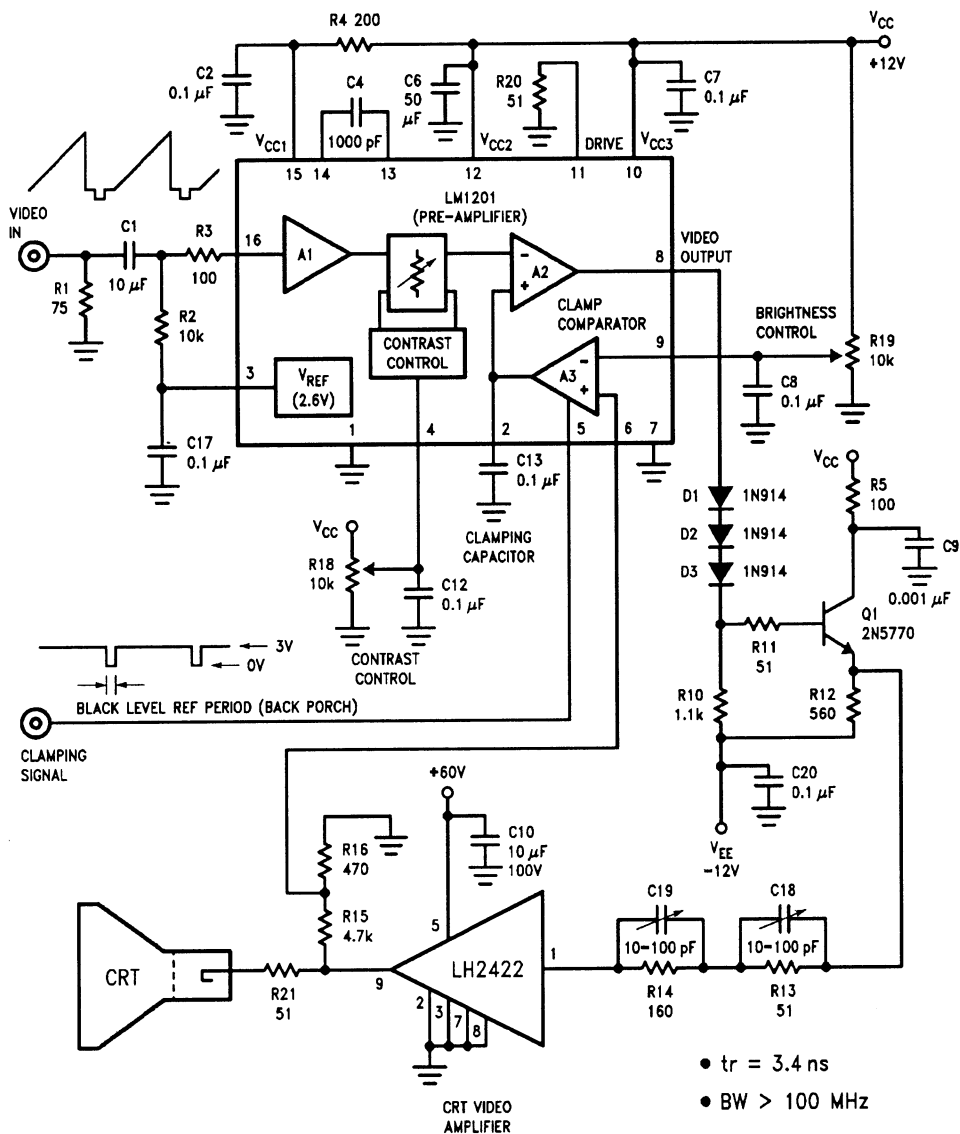

FIGURE 9. Circuit shows how the LM1201 pre-amplifier and LH2422 CRT Video Amplifier may be used to build a 100 MHz monochrome monitor.
The composite video signal from the host computer is ac coupled to the input of LM1201 through a blocking capacitor, C1, and is referenced to 2.6V by an internal reference. Amplifiers A1 and A2 shown in the block diagram of LM1201 (see *Figure 9*) provide a gain of 8; shorting the drive resistor, R20, will provide additional gain. The potentiometer R18 provides a variable voltage at LM1201's contrast control pin (pin 4) thus allowing attenuation of the video output signal. A nearly linear 0 dB to 30 dB attenuation can be obtained by varying the contrast voltage. Contrast control adjustment thus allows the user to vary the gain of the video signal.
The LH2422 in *Figure 9* is configured for midband gain of 13.6 as per equation (2). Variable capacitors C18 and C19 provide gain peaking at high frequencies and should thus be adjusted for best rise/fall time and low overshoot at the CRT cathode. To obtain a 40 Vpp output signal at the cathode, a 3 Vpp signal centered on 1.5 VDC is required at the RF input port of LH2422. This requires a signal swing from 0V to 3V but the video output signal of LM1201 does not swing all the way down to ground. In order to interface the LM1201 and the LH2422 and yet accommodate the quiescent voltage requirements of the two devices, level shift diodes D1, D2, D3 and a high speed buffer transistor Q1 (2N5770) where included. Adjusting the potentiometer at the brightness control pin (pin 9) of LM1201 allows the user to vary the DC offset of LM1201's output signal at pin 8 which in turn varies the DC level of the input signal at LH2422's RF input port. Brightness control thus allows the user to vary the overall brightness or luminance of the picture displayed on the screen.